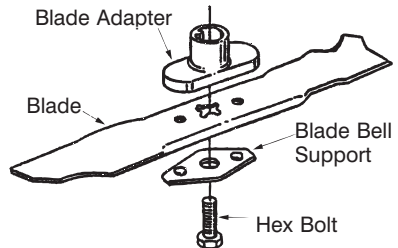

Figure 14
- Remove the bolt and blade support which holds the blade and adapter to the engine crankshaft. Remove the blade and adapter from the crankshaft. See Figure 14.
Install the blade adapter on the crankshaft with the "star" away from the engine. Refer to Figure 14. Place the blade with the side marked bottom (or with part number) facing away from the adapter. Align the blade bell support over the